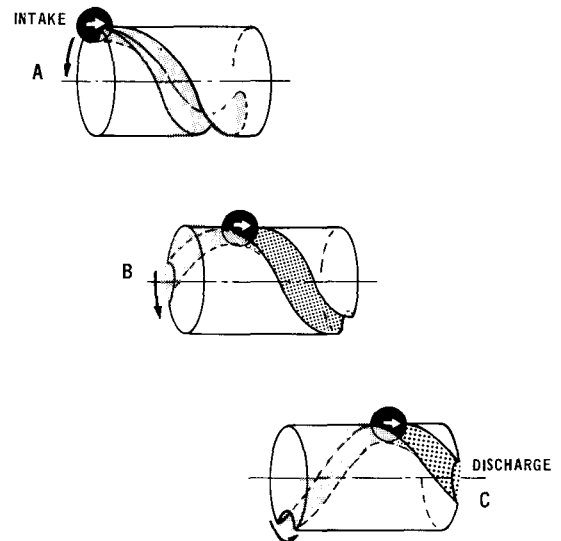

FIGURE 3
To illustrate the compression sequence, consider the action of the male lobe as similar to a ball. In Figure 3, one compression cycle has been isolated for simplification. As a helix rotates, the ball (male lobe) meshes with the groove to start a compression cycle with trapped atmospheric air (A). As the ball moves down the groove, air is compressed (B). The compressed air is discharged as the ball reaches the end of the groove (C). Atmospheric air fills in behind the ball preparing the groove for another compression cycle as rotation continues and the male lobe again meshes with the groove.